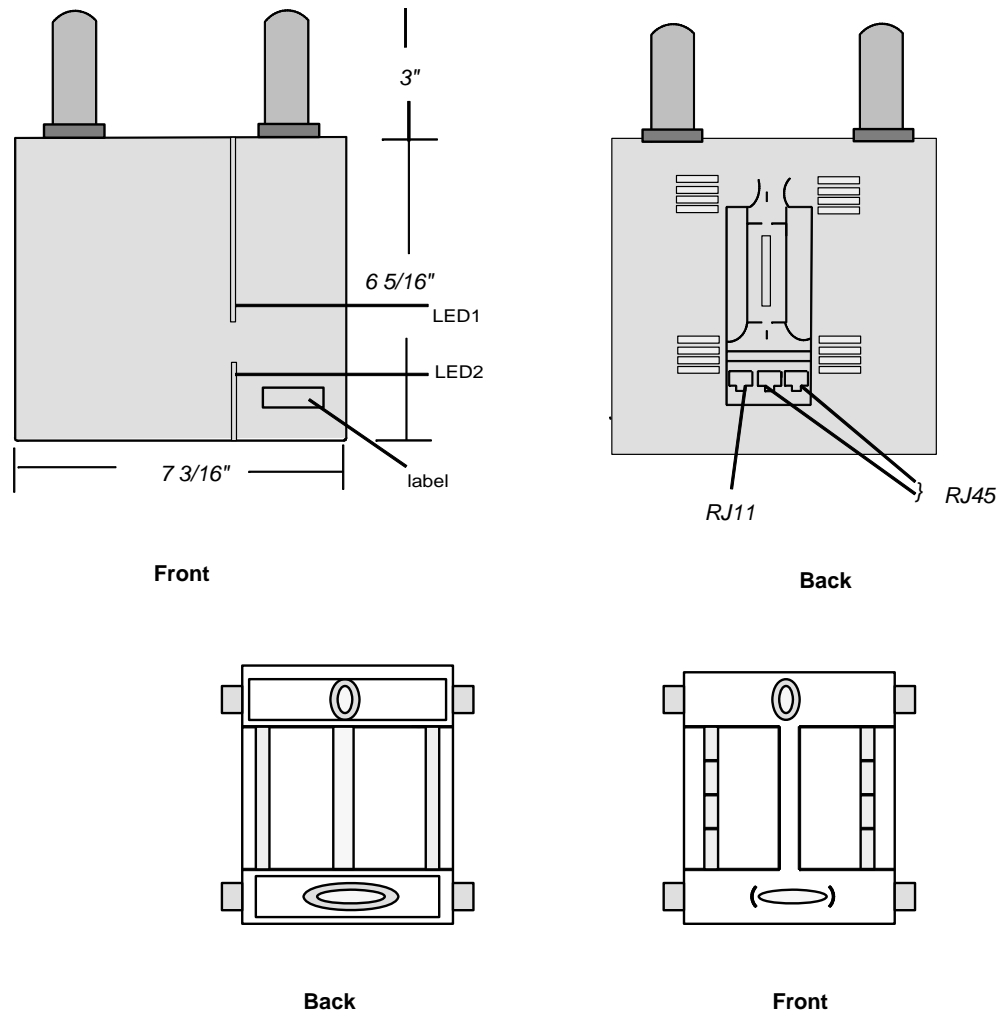

Fig. 16-1 Base Station Cover and Back
**LEDs (Fig. 16-1)**
Once the location where the Base Station is to be mounted has been determined, take the mounting plate (see Fig. 16-1, Base Station Cover and Back) and spot it where the Base Station is to be mounted.